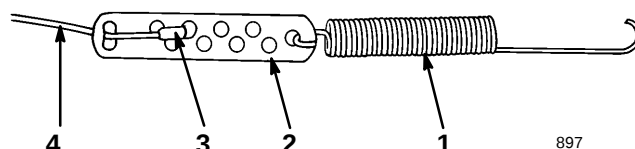

Figure 11
1. Hook the spring to the round hole at the end of the cable adjuster (Fig. 11).
2. Secure the end of the cable to the cable adjuster as illustrated in Figure 11.